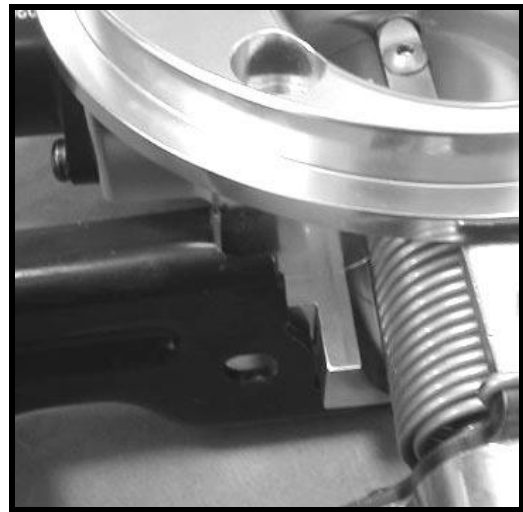
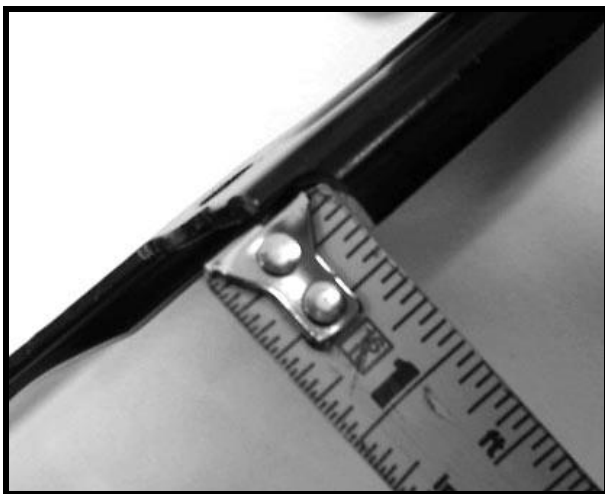

Figure 2
Figure 3
9. Grind a 3/8" square, as shown in Figures 3 & 4. This allows clearance for your new Holley throttle body (Figure 2).